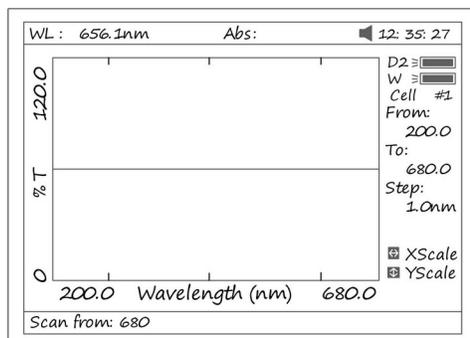

Fig 42
1. Press [F1] to setup, input the start wavelength, and end wavelength by pressing the numeric keypad (Fig 42). Note: This instrument scans from high to low wavelength. Browse and select the items of scan step and scan speed by pressing [\wedge] or [v].